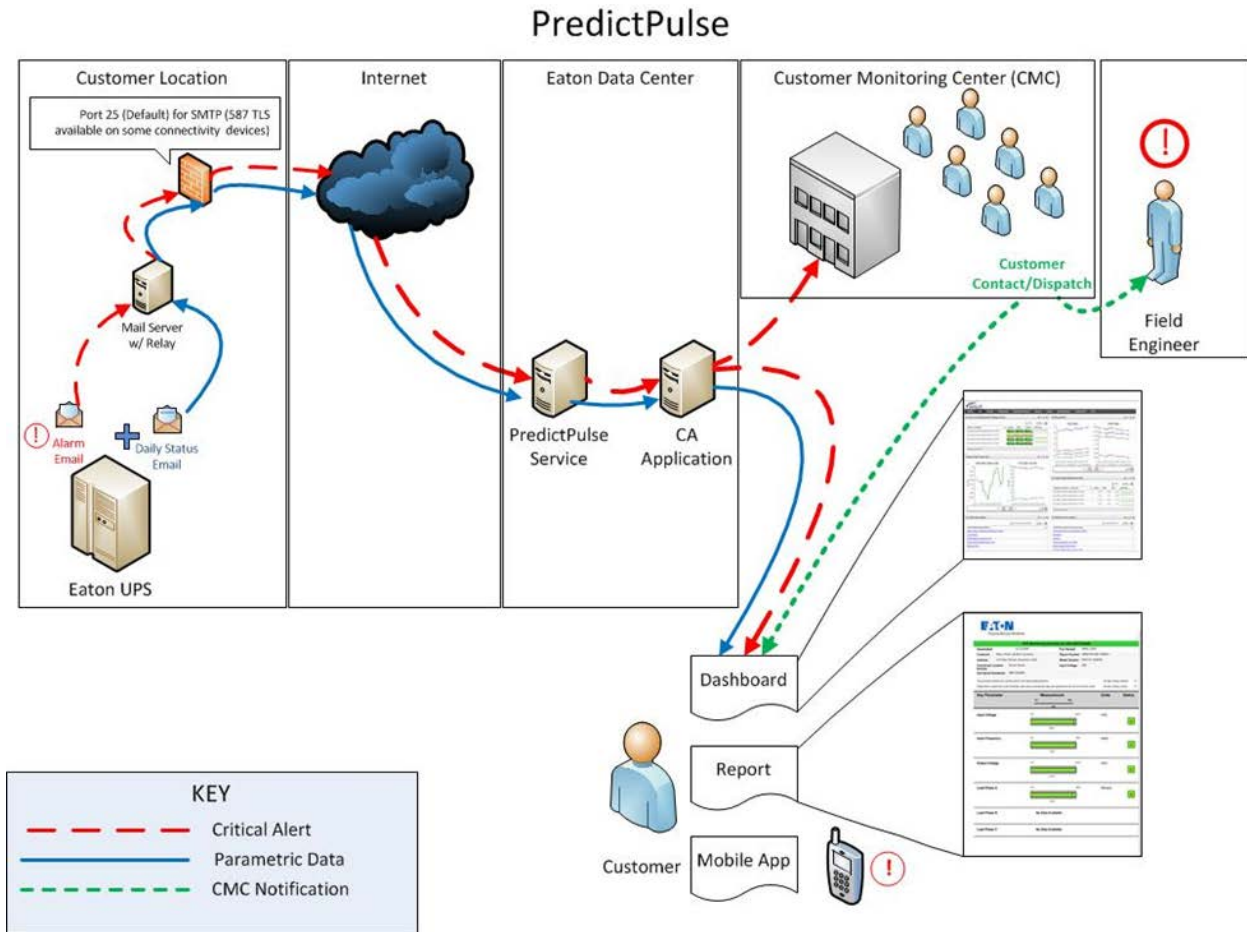

Fig. 1: PredictPulse service architecture
Figure 1 details the entire service architecture of PredictPulse.
- Connect the Ethernet cable from the **LAN** port on the NTC-140W Series router to the **Upstream** port on the card (Figure 1)